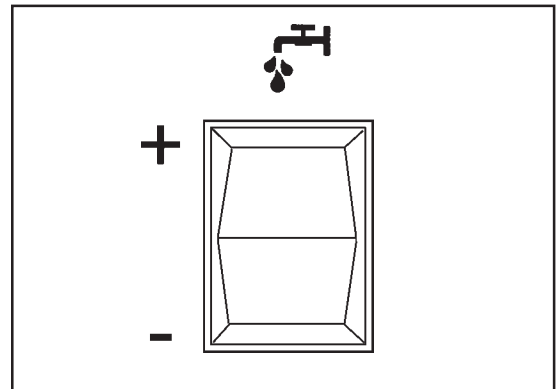
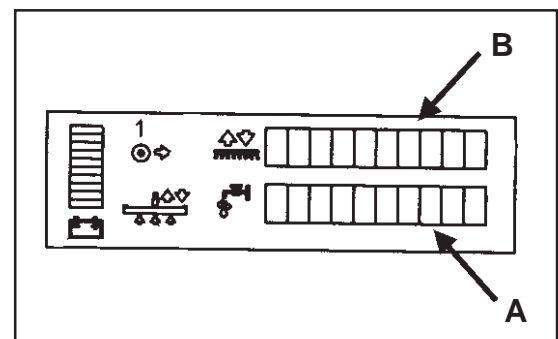
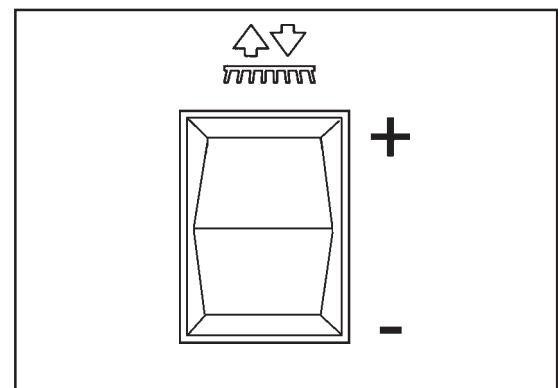

Figure 23
Figure 24
Figure 25
The solution is used to loosen and remove dirt from the floor. The amount of solution applied can be adjusted to five different levels to accommodate many different floor conditions. These different levels are shown on the LCD display on the front of the machine. To adjust the amount of solution applied, use the Solution Flow Switch (figure 23). **NOTE: There are five different settings on the display and they come on two bars at a time. See figure 24, A.**
1. Press the “+” side of the switch (figure 23).
1. Press the “-” side of the switch (figure 23).
The brushes are used to supply agitation for the solution, which improves the cleaning process. The amount of brush pressure applied can be adjusted to five different levels to accommodate many different floor conditions. These different levels are shown on the LCD display on the front of the machine (figure 24, B). To adjust the amount of brush pressure, use the brush up/down switch (figure 25).
1. Press the “+” side of the switch (figure 25).
1. Press the “-” side of the switch (figure 25).